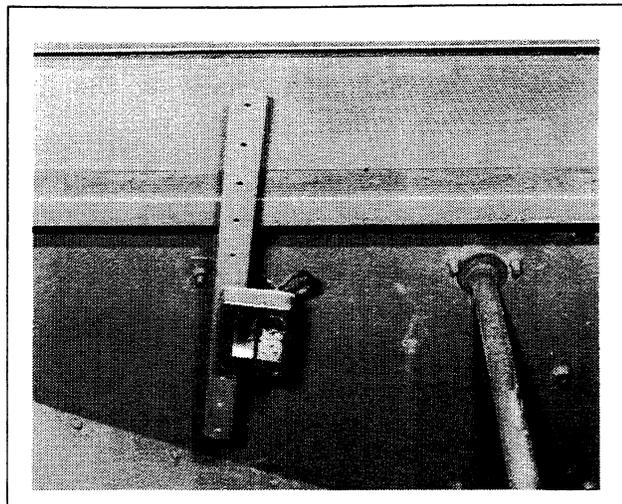

FIGURE 2-11: Full Bin Sensor
2. Fully obstruct electronic eye in hollow of full bin sensor (Figure 2-11). Monitor display should read "FULL BIN".
1. Disconnect plug on full bin sensor leads (Figure 2-11).